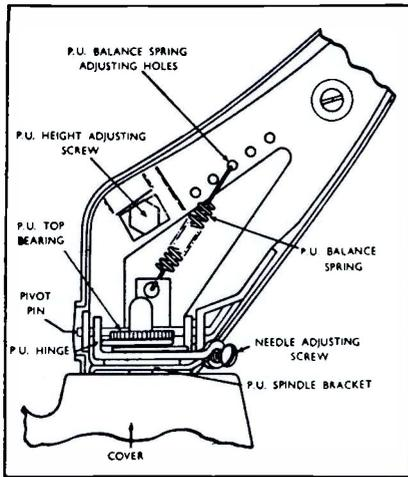

FIGURE 4.
**Needle Set-Down.** --The set-down position of the needle on the record is adjusted by manipulation of the needle adjusting screw (Item 8M261). (See Figure 4.) Adjust this screw until the correct set-down of the needle on a 10" record is obtained. The correct position is 1/8" from the edge of the record. It is advisable to make this adjustment with a stack of 10" records on the turntable. When correctly positioned for a 10" record, the 12" and 7" needle set-down will also be correct.
**Pickup Arm Height.** --The pickup arm height is adjusted by the pickup height adjusting screw (Item 8M257). (See Figure 4.) To raise the height of the pickup arm, turn this screw counterclockwise. To lower the pickup arm turn clockwise. The pickup height should be adjusted so that with a stack of ten average thickness records on the turntable, the point of the needle clears the top record by 1/16 inch. A check should then be made to insure that the pickup
**Needle Pressure.** --Adjustments may be made by repositioning the pickup balance spring (Item 8M263) in the various adjusting holes provided (see Figure 4) until the correct pressure is obtained.
This must be done after the changer has switched itself off. Unsolder the pickup leads from the connecting tagstrip. Un screw the pickup top bearing (see Figure 4) and then lift the pickup arm clear. Replace the pickup top bearing to avoid losing the spacer washer.